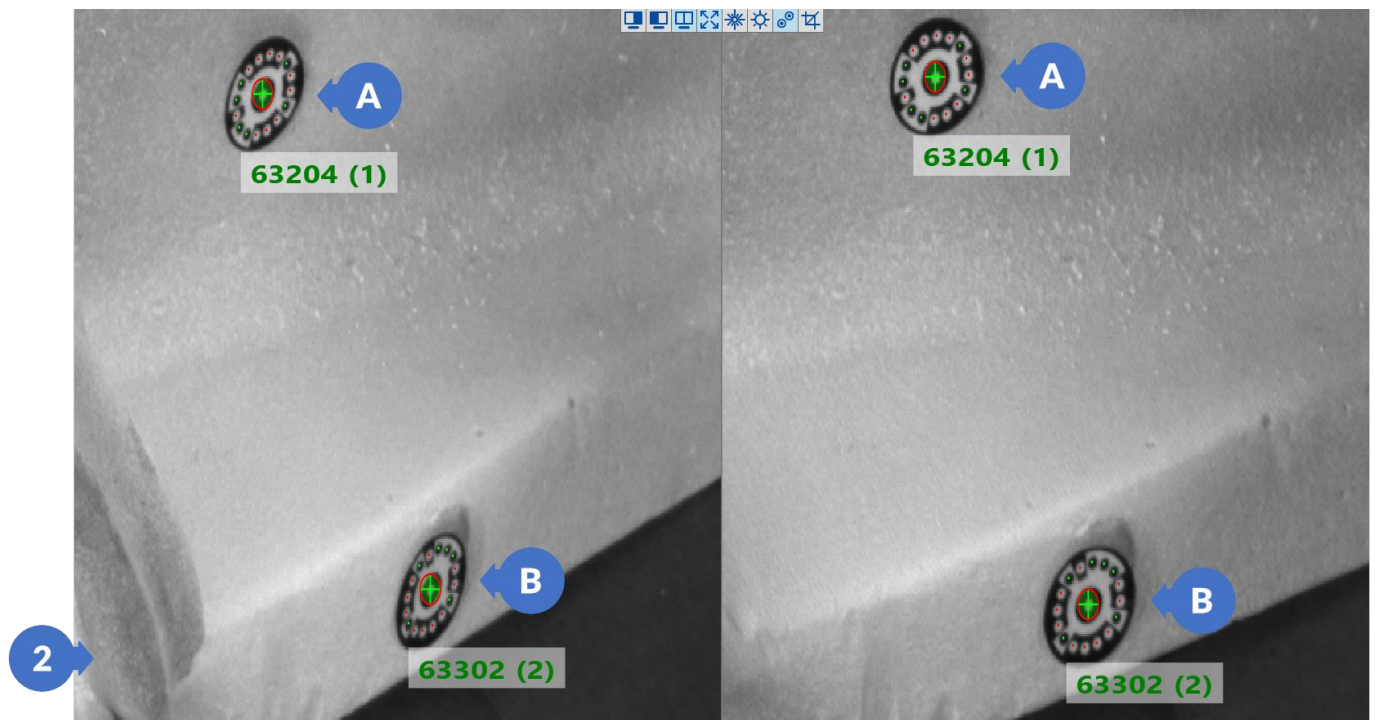

Figure 210. Preview of detected markers for the right and left cameras
After selecting the *Show markers* option, the algorithm will mark in the real time the detected markers (3) (Figure 210).